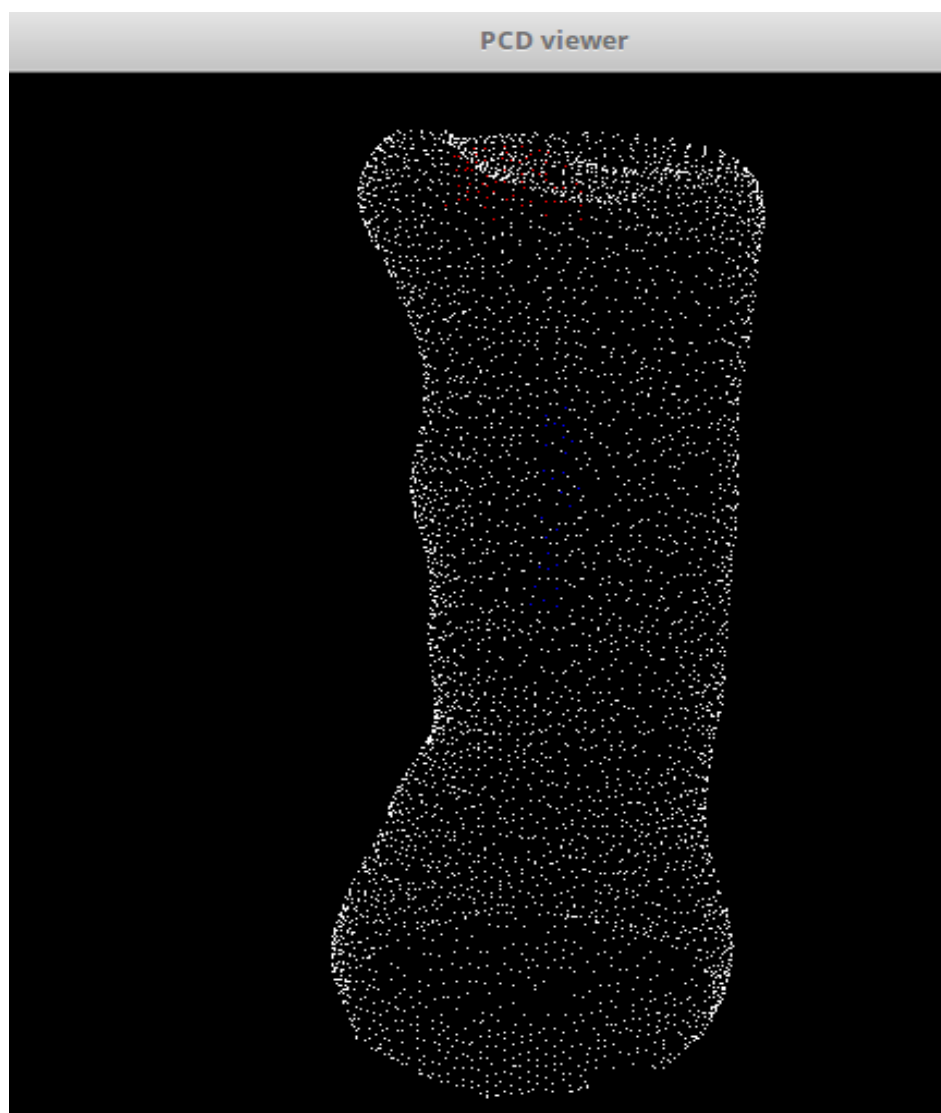

Figure 5. Point cloud of the 3D scan.
2. GripFab will read the colored point cloud (Figure 5) from the scan and extrapolate the points of interest. The command prompt will then ask the user for the specifics of each hole.